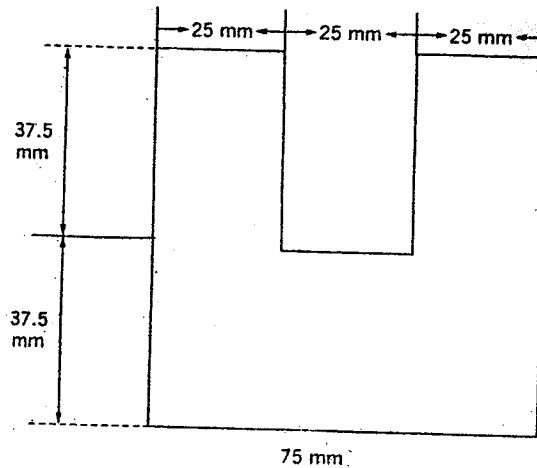

fig. 4 Q. 4 c)
c) The beam section shown in Fig. 4 is subjected to a shear force of 35 kN.